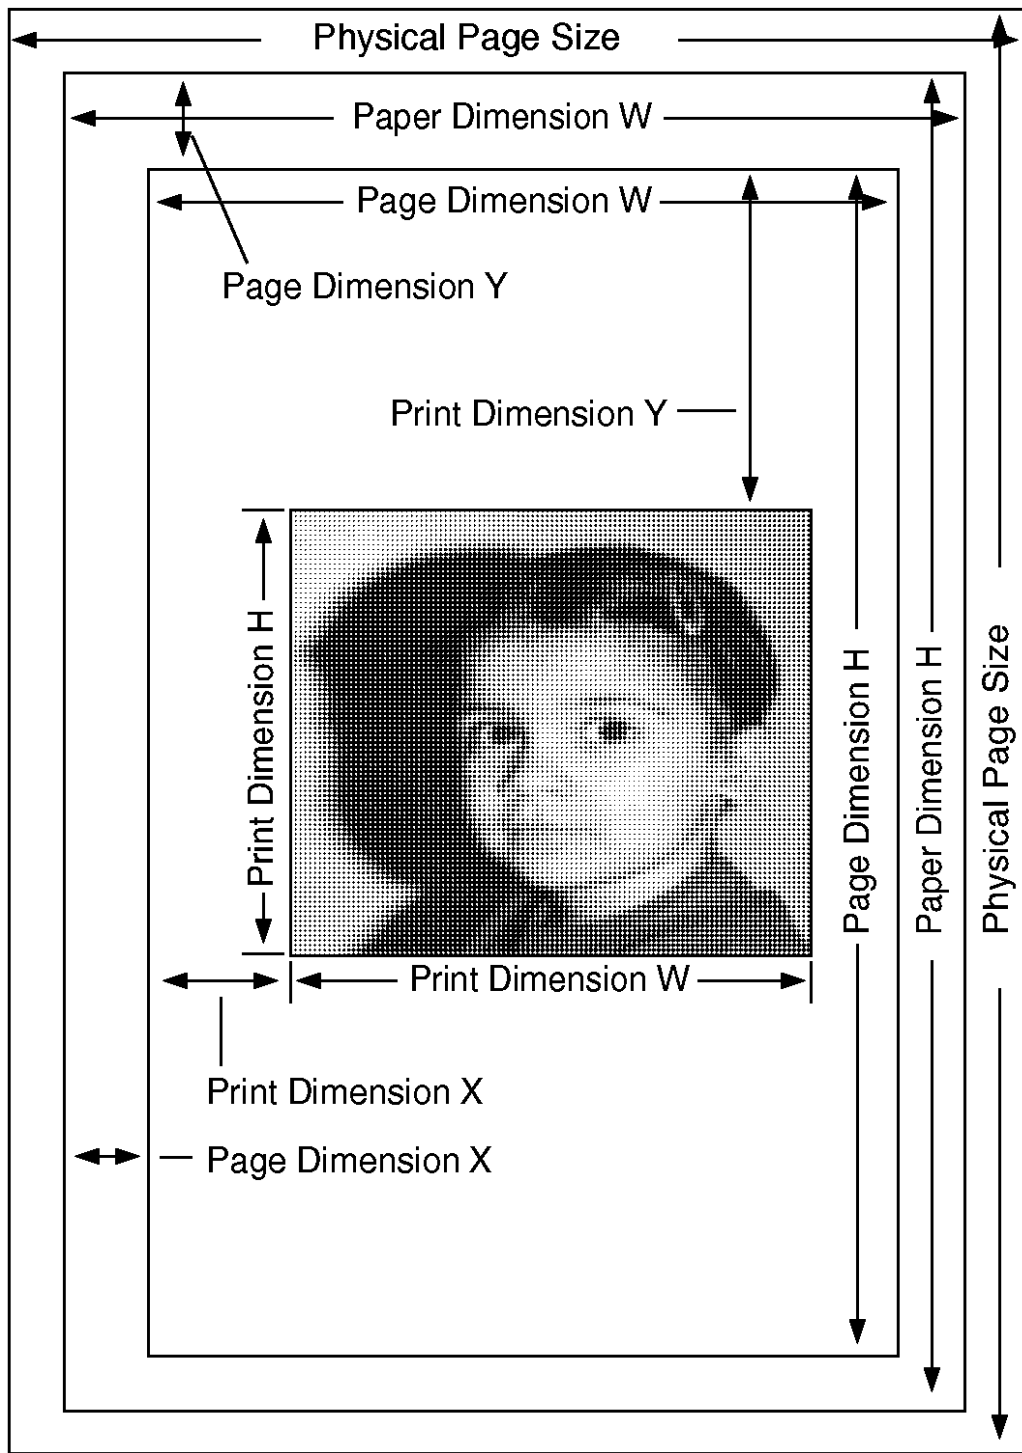

Figure 7.3: Dimensions used for printing.
**Paper Dimension** These are two options. One is showing you the width of the maximum printable area of your printer, as specified by the printer driver1 (see figure 7.3). This option is read-only. The other option defines the height of the maximum printable area of your printer. This setting is defined as the physical area of the page that can be printed on. For instance, if you have DIN A4 paper with a size of 21.0cm × 29.7cm and your printer always leaves a top and bottom border of 1cm, you should enter 27.7cm here.
**Print Dimension** Lastly we have the actual print size of the picture (again, see figure 7.3). There is almost no limit to the size that can be specified here. Just be sure the upper left-hand corner of the picture will be printed on the first page2. The Print Dimensions X will be applied to all of the left-most pages in a poster print. All of the top-most pages of a poster print will be affected by the Print Dimensions Y setting.